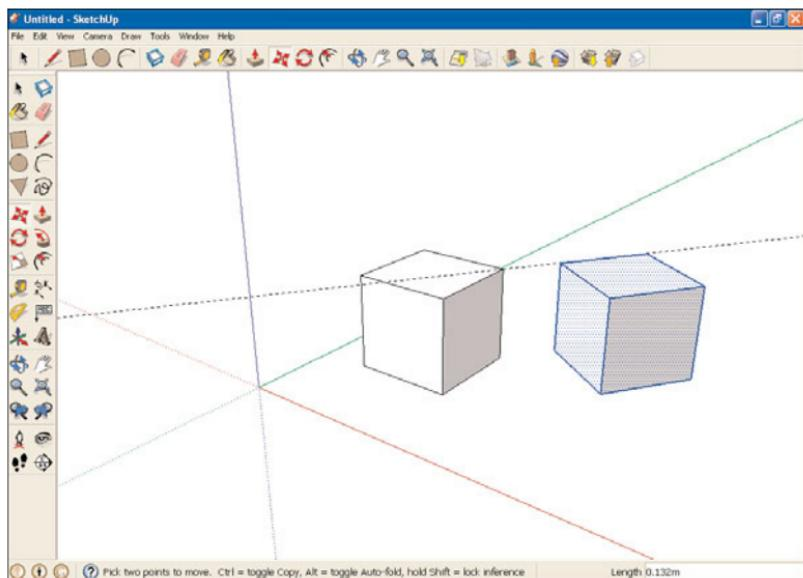

FIGURE 10.16 Aligning a cube.
15. Use the Move and Rotate tools to move the right cube into position along the guide, as shown in Figure 10.16.